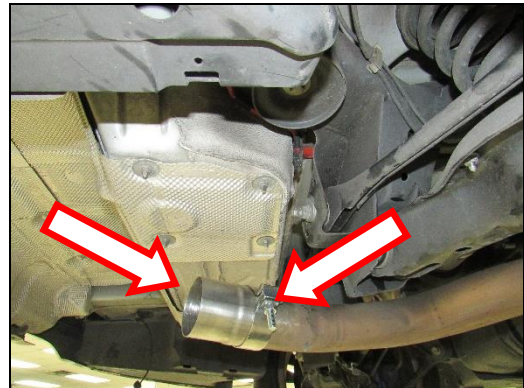

Figure 7
2. Slide (x1) 3" band clamp on the adapter pipe and tighten (**Figure 7**).